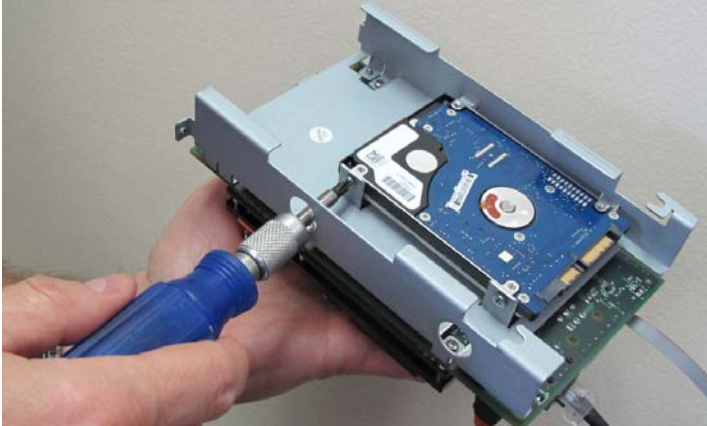

Figure 72: APC-CX(i) II Hard Disk Drive Removal
4. Remove the two retaining screws; see Figure 72.
7. Install and secure the replacement hard disk drive in the orientation as shown in Figure 72 (page 199).